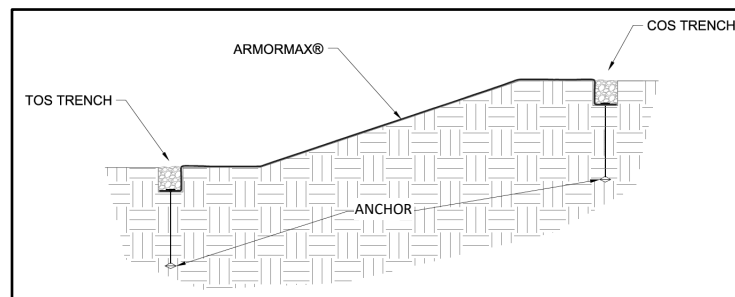

Figure 12: Crest of Slope (COS) Trench and Toe of Slope (TOS) Trench Complete
1. Begin the **ARMORMAX LAYDOWN** process by starting with the downstream / downwind end of the site. To ensure proper anchoring of the overlapped areas the proceeding roll width must be laid out before the current roll width can be anchored with exception to the final roll width. For straight sections of a slope, ARMORMAX panel lengths should be long enough to construct COS and TOS trenches while also covering the surface of the slope being armored (Figure 12). Panel edges should rest approximately perpendicular to the slope center line. For best results, panels of ARMORMAX should be continuous and free from seams or roll end overlaps that are parallel to the centerline of the slope. Panel edge overlapping should follow a pattern of placing each proceeding panel's edge overtop the previous panel edge, shingling the panels in the direction of the water flow or prevailing wind.
7. Secure ARMORMAX with pins and anchors in the TOS trench. Suggested placement of pins and anchors for the TOS trench is along the bottom of the trench with pins on 12 in (300 mm) centers in between anchors on 4 ft (1.2 m) centers (Figure 12).
8. Backfill and compact the TOS trench. (Figure 12)